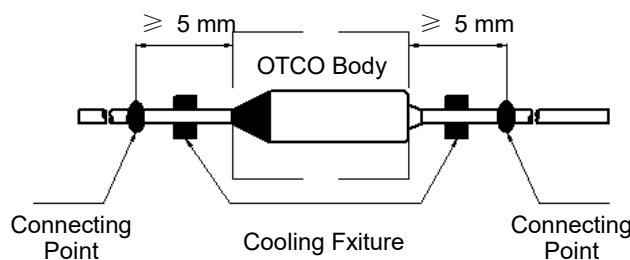

FIGURE 2
2. The connection point of the lead shall be no less than 5 mm away from the OTCO body (see Fig.2).
3. In the process of soldering, cooling fixture should be used between soldering point and OTCO body (see Fig.2).
3. In the process of welding, cooling fixture should be used between welding point and OTCO body (See Fig.2).